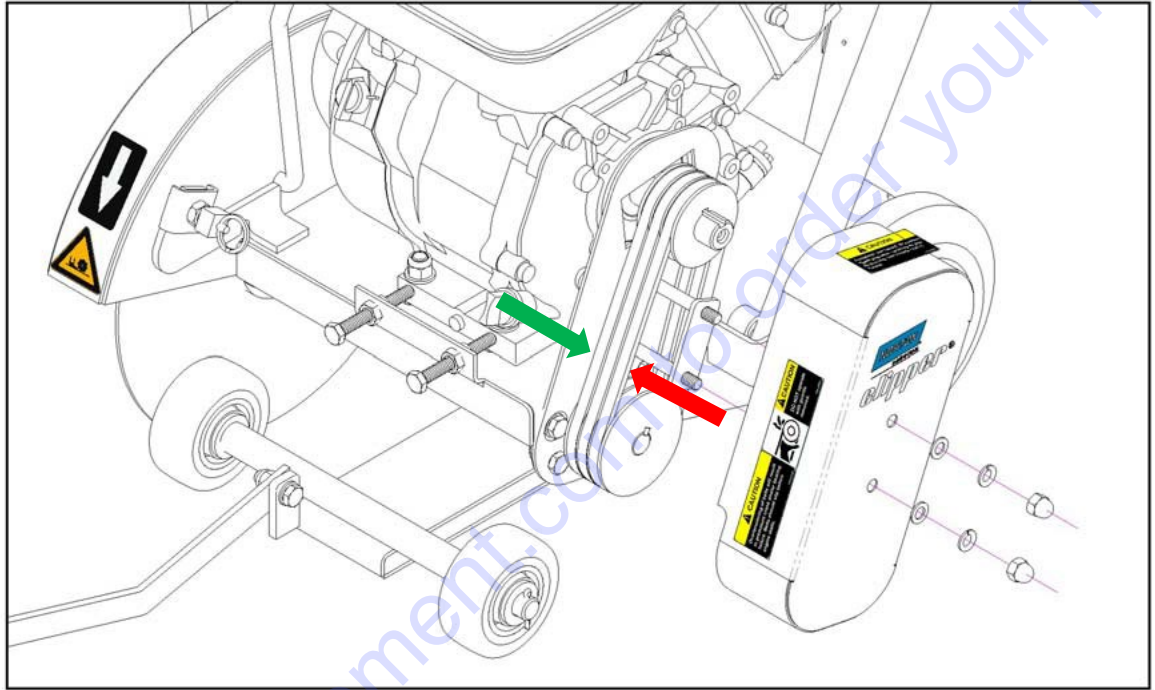

**Figure: C914P/C914PK Belt Tensioning System**
The C914P/C914PK saw uses dual tensioning bolt system for the belt tensioning. The Belt Tensioning is made by two (2) pusher Screws which can be found in front of the Engine see Figure: C914P Belt Tensioning System for details. The Belt Tensioning System is designed to push the engine from the center which helps to reduce the Engine from twisting during the belt tensioning process. This system is designed to be simple to use and to maintain with the tools equipped with the machine.
4. Slightly loosen the four (4) M10 Engine Mounting Bolts with the M17 wrench. NOTE: The four (4) M10 Engine Mounting Bolts will need to remain snug during the belt tensioning process. Not keeping the M10 Engine Mounting Bolts snug may allow the engine to twist in the mounting slots which may result in the pulleys becoming miss-aligned.
5. Loosen the two (2) M10 Jam Nuts on the C914P/C914PK Belt Tensioning with Assembly with a M17 Wrench (See **Figure: C914P Belt Tensioning Hardware** below).
6. To apply tension (tighten) to the Blade Drive Belts tighten (turn clockwise) move both of the M10 Jam Nut way from the Tensioning Bracket and then rotate both of the M10 x 80 1.5 Hex Head Cap Screw DIN933 Clockwise the same number of turns until the required Belt Tension of 3/8" to 1/2" (9.5 to 12.7mm) is achieved. To loosen tension of the Blade Drive Belts, rotate both of the M10 x 80 1.5 Hex Head Cap Screw DIN933 the same number of turns then move the Engine until it is touching both of the M10 x 80 1.5 Hex Head Cap Screws and then rotate both of the M10 x 80 1.5 Hex Head Cap Screws Clockwise to the same number of turns until the required amount of Belt Tension of 3/8" to 1/2" (9.5 to 12.7 mm) is achieved. (See **Figure: C914P Belt Tensioning Jam Nut Direction**). NOTE: Do not over tighten the belts as too tight of belts can break Engine Output Shafts, Blade Shafts, Belts, and cause premature Bearing Failures. Failures due to too tight of Belts are not covered by any warranty. Too loose of Belts will cause the Belts to slip under load and may cause burning of the Belts and is not covered under warranty.
7. Tighten the four (4) M10 Engine Mounting Bolts.
1. Review the locations of the C914P/C914PK Belt Tensioning system before proceeding. (See **Figure:C914P/C914PK Belt Tensioning System**).
2. Remove the Belt Guard by loosening and removing the two (2) M10 Belt Guard Retaining Bolts.